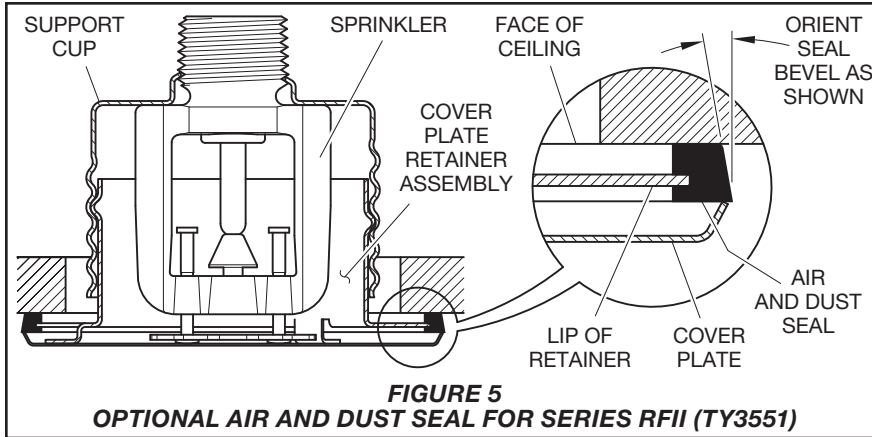

FIGURE 5
As an option, the Series RFII Standard Response (5-mm bulb) “Royal Flush II” Concealed Pendent Sprinklers can be fitted with a silicone Air and Dust Seal. See Figure 5. The Air and Dust Seal is intended for sensitive areas where it is desirable to prevent air and dust from the area above the ceiling to pass through the cover plate.
Step 7. When installing an Air and Dust Seal, see Figure 5; otherwise, proceed to Step 8. To attach the Air and Dust Seal, verify the angle of the outside edge of the seal is oriented according to Figure 5. Start the edge of the Retainer in the grooved slot of the Air and Dust Seal and continue around the retainer until the entire Air and Dust Seal is engaged.
Step 8. Screw on the Cover Plate/Retainer Assembly until the Retainer, shown in Figure 2, or the Air and Dust Seal, shown in Figure 5, contacts the ceiling. Do not continue to screw on the Cover Plate/Retainer Assembly so that it lifts a ceiling panel out of its normal position. If you cannot engage the Cover Plate/Retainer Assembly with the Support Cup or you cannot engage the Cover Plate/Retainer Assembly sufficiently to contact the ceiling, you must reposition the Sprinkler Fitting.